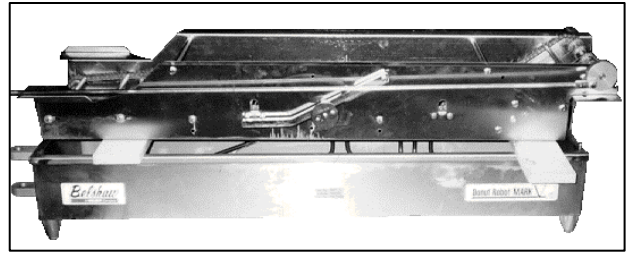

Figure 3-1. Draining the Shortening off of the Conveyor.
- d. Lift the outfeed end of the conveyor. Slide one piece of wood under the conveyor and lay it across the top of the kettle. Lift the other end of the conveyor and do the same with the other piece of wood. The conveyor will now be resting on the two pieces of wood. Let the shortening drain off of the conveyor and into the kettle. See Figure 3-1.